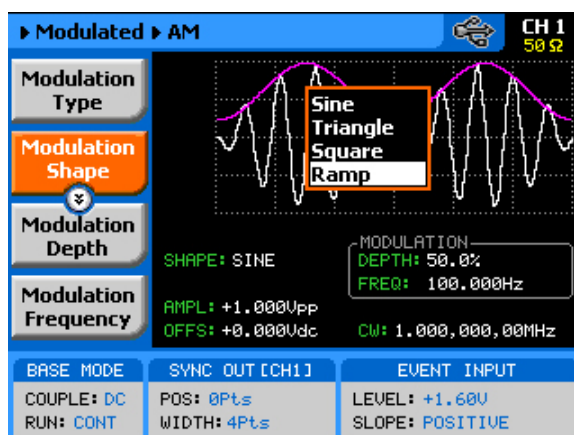

Figure 3-35, Modulating Waveform Shapes
**Modulation Shape** – defines the envelope function. There are four shapes that can be used: Sine, Triangle, Square and Ramp. The Modulation Shape menu that provides access to the selection of the envelope waveform is shown in Figure 3-35.